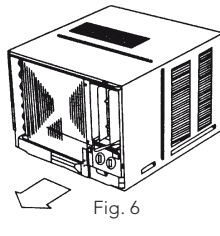

Fig. 6
- 2 Grasp the handle on the chassis and carefully slide the air conditioner out of the cabinet. (see Fig.6)